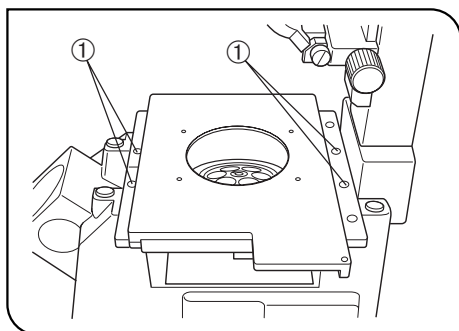

Fig. 84
(Figs. 84 to 86)
2. Insert the four provided Allen screws into the mounting holes ①. Tighten the screws using the provided Allen wrench. (Fig. 84)